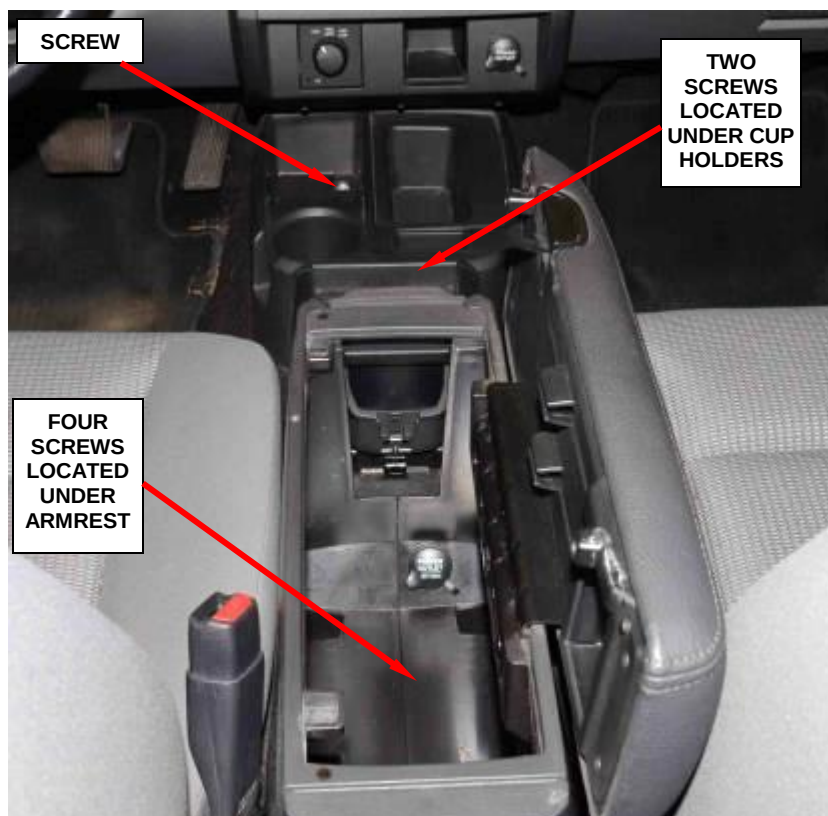

Figure 129 – Floor Console (ATX Shown)
- d. Remove the screws that secure the floor console to the floor panel (Figure 129).